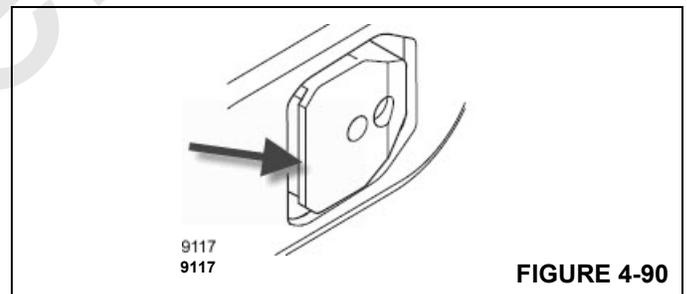

FIGURE 4-90
- Assuming that the boom section is requested to be locked, it is important to know that there are a few phases to the automated motion to lock the boom section. In particular, (Figure 4-90) shows that there is a “lip” on the boom section pins (pointed to by the arrow in figure). The first phase for boom section locking is to release/extend the pins into the hole/cutout in the encompassing boom section. If this is successful, then there is a second phase of automated motion to set down the boom section on the proper flat surface of the pins that is next to the lip. In a final phase, the pin is confirmed to be engaged and the boom section locked by the control system command the telescoping cylinder to retract and then checking for no boom motion. If there is no motion, then it is confirmed as locked.
- The operator can use the joystick in the retract direction for at least 1 second, and then the automated motion to unlock the boom section (T1 in the example) will start. It is important to know that there are two phases for unlocking a boom section. As mentioned previously, and shown in (Figure 4-90), there is a lip on the boom section pins. Therefore, the first phase of the automated motion is to lift up the boom section to have clearance from this lip. After the lift up is completed, then the pins are retracted. The boom section is now able to be retracted.